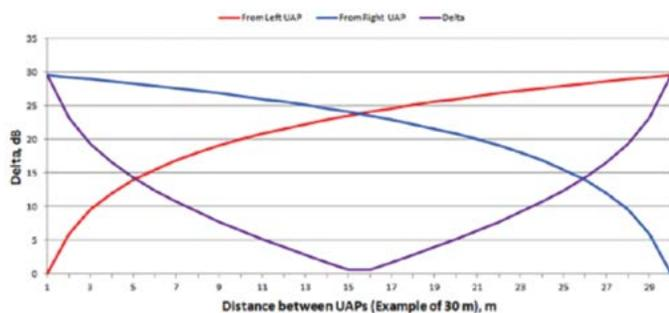

Figure 6
2. Assuming a 2x2 MIMO configuration, the delta between signal levels from the two antenna paths should be less than 12 dB to keep the two data streams balanced. Figure 6 shows that, in an open space environment, when access points are spaced 30 meters apart, the 12 dB delta is reached at approximately 5 meters from the access points. In other words, the I-MIMO solution provides excellent balance between the data streams for over two-thirds of the coverage area. Note that there are no special design rules or AP spacing requirements for implementing an interleaved MIMO network. A standard SIMO design that meets the targeted KPIs is sufficient.